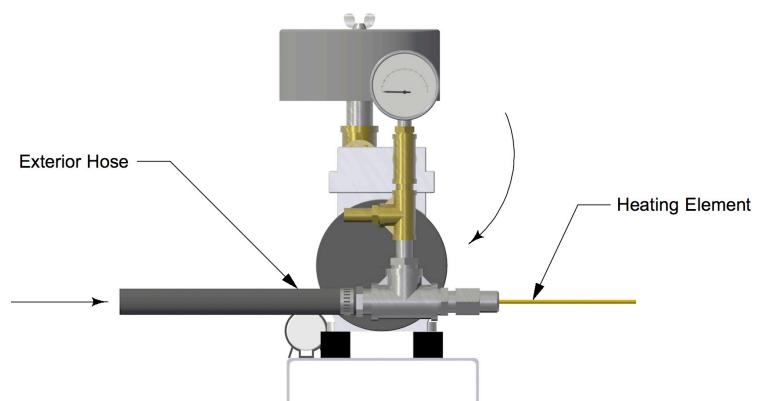

Figure 14: Step 3, 4 & 5 Twist back to original position
- Step 3:** After attaching the electrical connection assembly, rotate the discharge assembly back to original position. (See *Figure 14*)